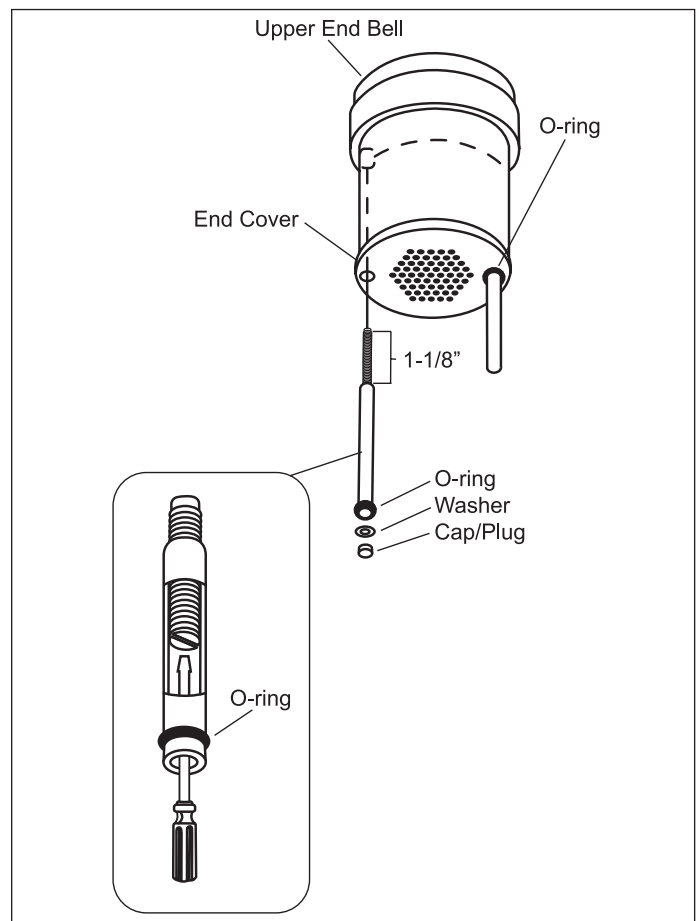

Figure 6. Disposer Leg
7. To remove legs, remove black cap plug from bottom of support leg (Figure 6). Insert slotted screwdriver into open end of leg support tube and turn stud counterclockwise until free of upper end bell. Pull leg from disposer.
1. If unit was equipped with legs, insert leg assemblies through end cover guide holes. Insert screwdriver into open end of leg support tube and turn stud clockwise to install. Install O-ring, washer and cap to each leg (Figure 6).